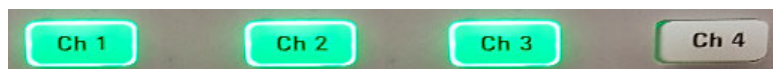

Figure 7-1: Ch 1, Ch 2, and Ch 3 key illuminates when selected
5. Press the required channel key ([Ch 1], [Ch 2], [Ch 3] or [Ch 4]) on the front panel. The selected channel key is illuminated. See Figure 7-1.